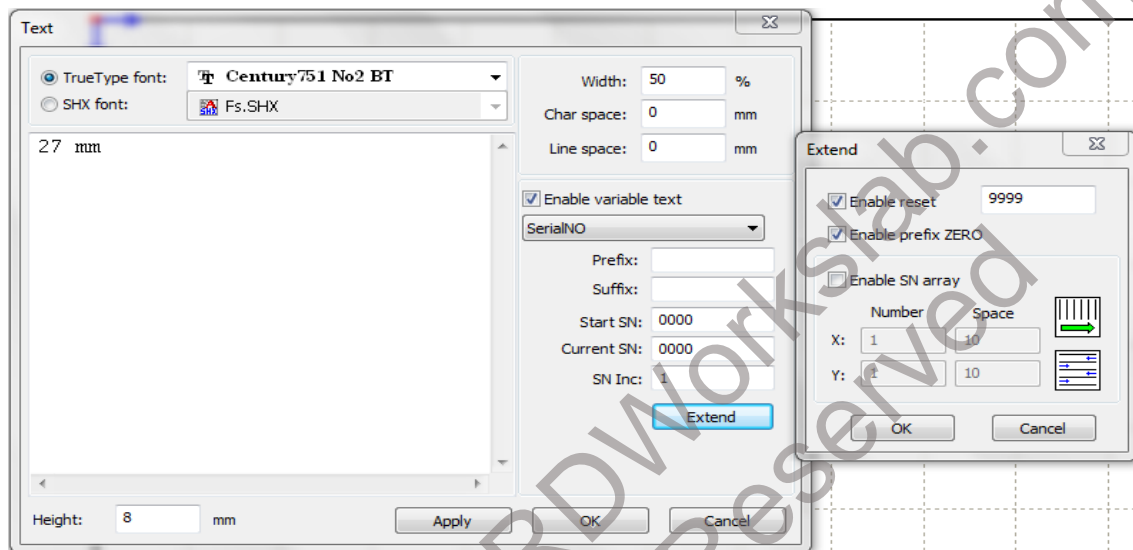

Figure 13
**Text (Ctrl+6):** To add text, do the following steps: Click on menu [Draw] -> [Text], or click the Edit Bar icon  and then click on the screen where you want to insert the text. Enter text, select font, set text height, width, and spacing in the pop-up text dialog box (as shown in **Figure 13**). Click [OK] to close the pop-up and apply the text settings. Text remains editable until you select the Un-group Icon  - near Top Left on the Toolbar.